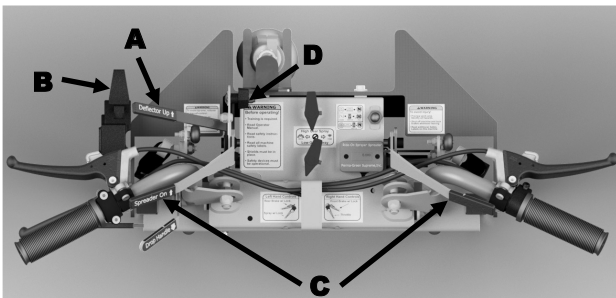

FIGURE 10
This machine uses a familiar 3-hole cyclone type spreader mechanism, and comes factory set to broadcast spread a pattern width of 14 ± 1 FEET (4.3 ± 0.3 meters). Using a 7 ± 1 FOOT (2.1 ± 0.3 meters) overlap travel pattern provides an even distribution of most products. **NOTE:** Actual spread pattern width and overlap may vary based on your calibration (refer to Spreader Calibration in this section). Referring to **FIGURE 10:** A Deflector Lever (A) remotely controls a Deflector to cut off the right side of the spread pattern for trimming. A Third-hole Lever (B) remotely controls a Third-hole Adjustment Plate that should be used with the Deflector to compensate for the amount of product required while trimming and to balance the spreader pattern for even distribution. An opening and closing Hopper Lever (C) remotely controls the delivery of granular material from the Hopper. A Rate Adjustment Knob (D) adjusts the amount of product delivered when the hopper is open. The sprayer can be operated at the same time the spreader is in use, and the seven-foot overlap pattern is also effective for the sprayer.
- Once your Pre-Calibrated **LOW GEAR** setting is adjusted, reposition the stop bolt (**FIGURE 10.2-H**) against the Rate Adjuster Knob (Fig. 10-D) to lock in your Pre-set location. A 5/32" Allen wrench is required.
- To raise the Deflector (not shown) out of the path of the granular spread pattern, move the Deflector Lever (Fig. 10-A) forward.
- To open the Third-hole Adjustment Plate (not shown), push the Third-hole Lever (Fig. 10-B) forward.